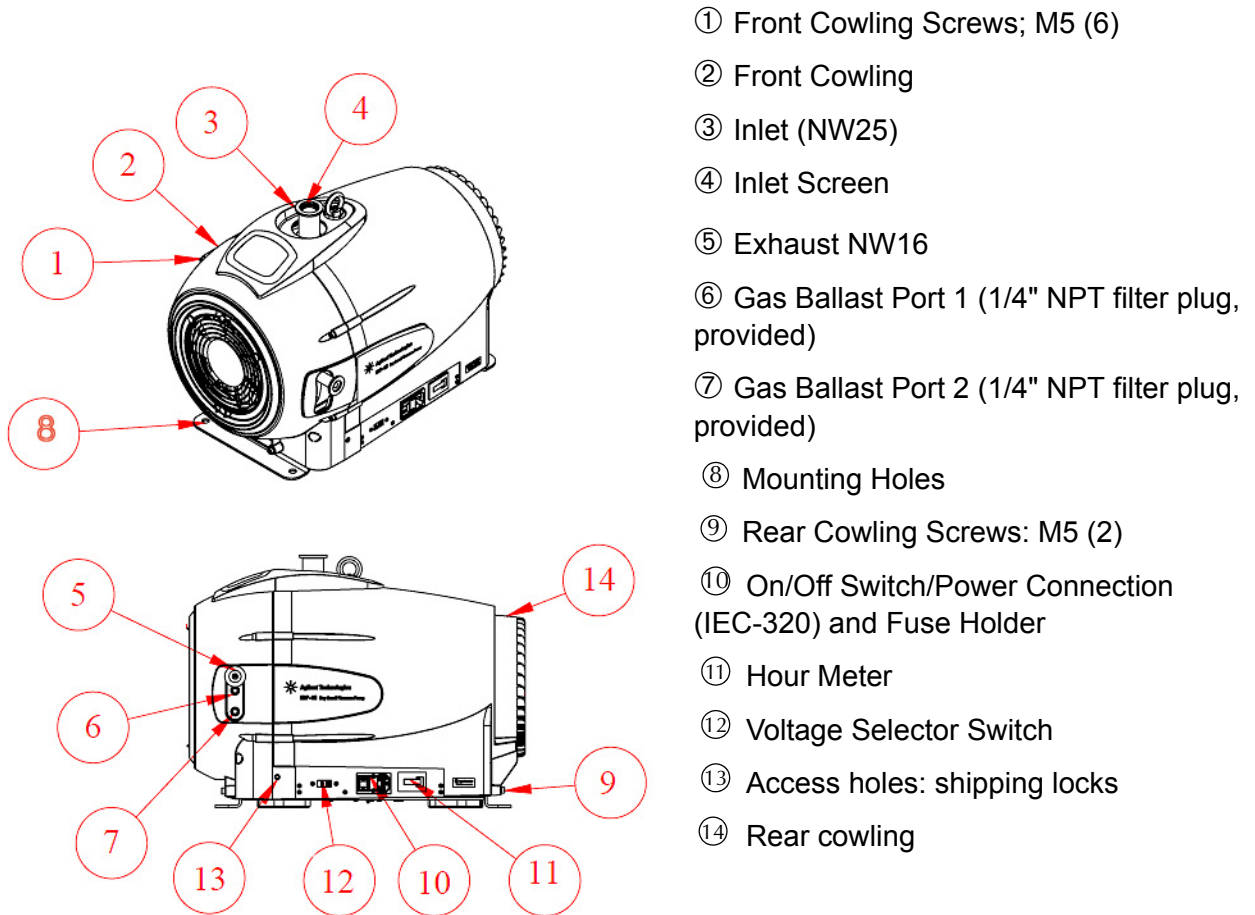

Figure 2 Outline Drawing and Principal Items
Before operating the IDP-15 disengage the shipping locks (Figure 2 on page 13).
6. Disengage shipping locks and enable vibration isolation by inserting a 4 mm Allen wrench into each of the four shipping lock access holes (*Figure 2 on page 13*) and turning the screws clockwise until significant resistance occurs. The pump body is now floating on its isolation mounts.
Engage the shipping locks (Figure 2 on page 13) when shipping, moving a long distance or during long-term storage.